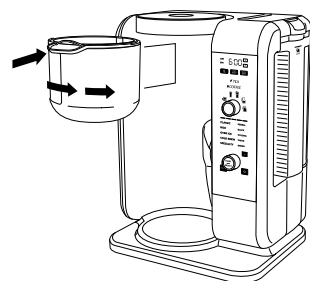

Fig. 10
- 1 Open the brew basket by sliding it out of the brewer (**Fig. 10**). Ensure you have the COFFEE filter holder in the machine, denoted by the orange handle with the coffee bean icon.
- 1 Open the brew basket by sliding it out of the brewer (**Fig. 10**). Ensure you have the TEA filter holder in the machine, denoted by the green handle with the tea leaf icon.